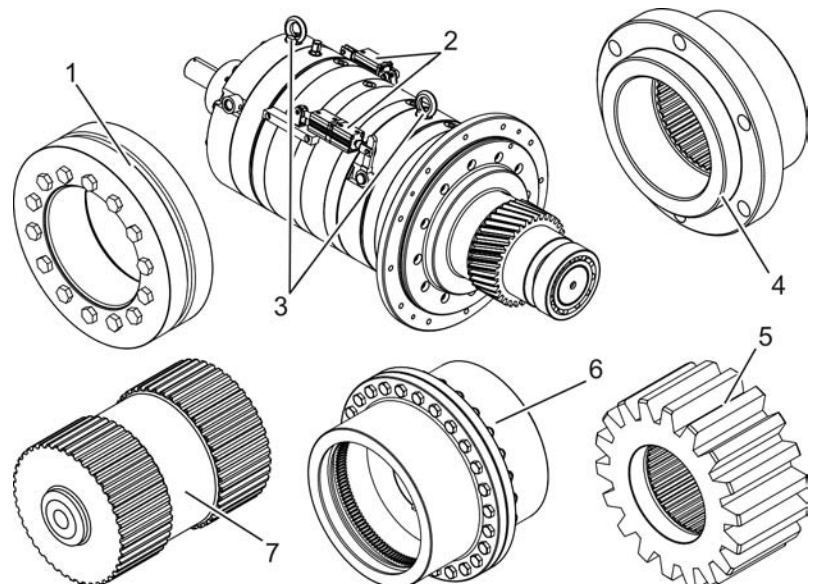

Fig. 21: Accessories
For series S shift gearboxes it may be the case that pneumatic cylinders are installed (see Fig. 21/2 for example). Likewise for certain gearboxes direct connections for compressed air can also be present. The position and type of the connections are shown on the dimension sheet, or possibly in separate documentation for the pneumatic cylinders.
- Shrink disks (Fig. 21/1)
- Pneumatic cylinders (Fig. 21/2) for the shift mechanism
- Attachment eyes for transport (Fig. 21/3)
- Flanges (Fig. 21/4)
- Pinions (Fig. 21/5)
- Toothed clutches (Fig. 21/6)
- Clutch shafts (Fig. 21/7)